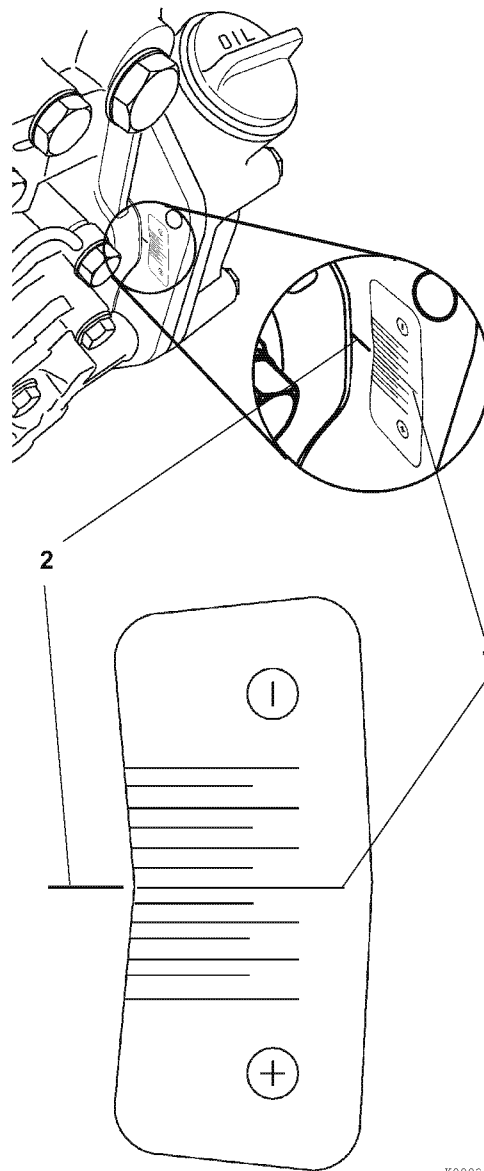

Figure 7-23
- Reinstall the timing grid sticker, provided with the new fuel injection pump, onto the back of the gear case/front plate (Figure 7-23). Align the “standard mark” (Figure 7-23, (1)) with the reference mark (Figure 7-23, (2)) made on the gear case during disassembly.